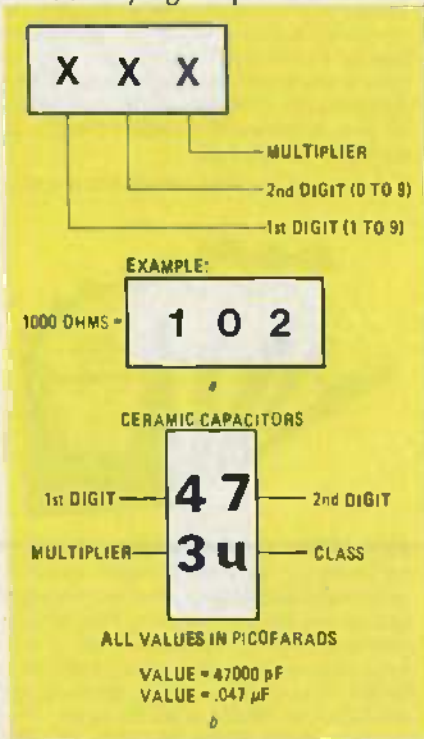

FIG. 1
Instead of using colored dots or bands, chip resistors are identified by numbers printed on the top of the device, as shown in Fig. 1-a. For example, a 1000-ohm resistor would be marked "102." The first two numbers (10) are the first two digits of the value. The third number is the power-of-ten multiplier. (It tells you how many zeros to add, as seen in Fig. 1-a.)
Ceramic capacitors are marked with a similar system, except that two rows of numbers are used, as shown in Fig. 1-b. For instance, a .047- μ F capacitor would be marked "47" in the top row and "3u" in the bottom one. The top two numbers represent the first and second digit in the part value. The number in the second row is the power-of-ten multiplier. All values are marked in picofarads. (To convert that value to microfarads, the decimal point is then moved six places to the left.) That is practically the same as the system used now for small mica and ceramic types. The letter following the number represents the class or tolerance of the capacitor.